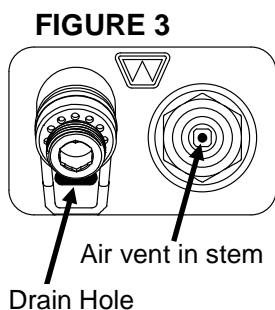

FIGURE 3
8. The operating stem air vent must not be plugged to ensure proper draining. FIGURE 3